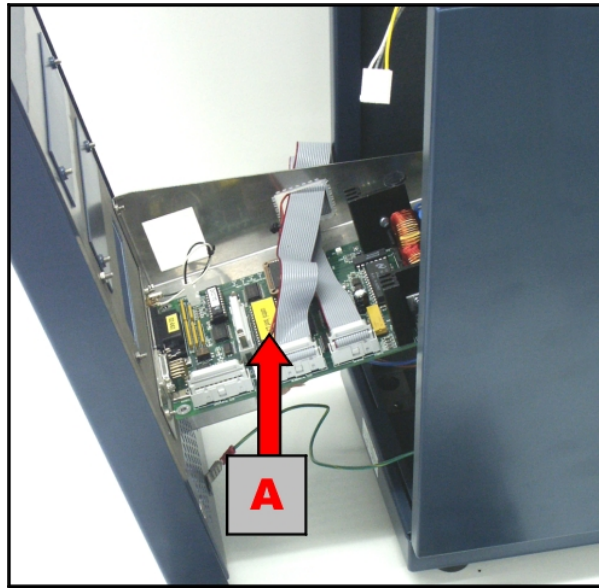

Figure 7 Top view of control board. (A) control board EPROM.
Remove both EPROM's on control and sensor board as described in the service manual in paragraph "Replacement of EPROM's". Replace the EPROM's with the EPROM's provided to you in the upgrade kit. The EPROM of the control board is located on the position (A) marked with the arrow in figure 7. For the location of the EPROM on the sensor board see figure 4 (A).